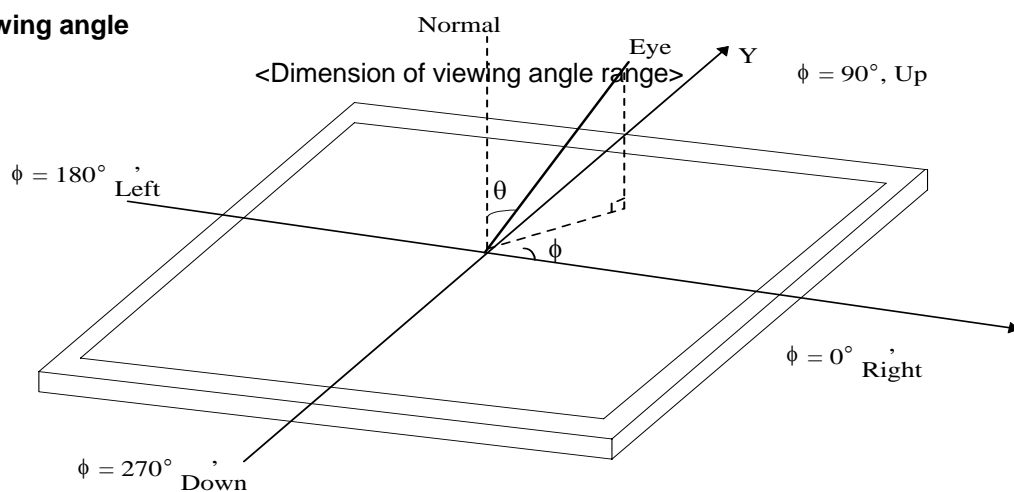

**FIG. 3 Response Time**
2. Response time is the time required for the display to transition from white to black (rise time,  $Tr_R$ ) and from black to white(Decay Time,  $Tr_D$ ). For additional information see FIG 3.